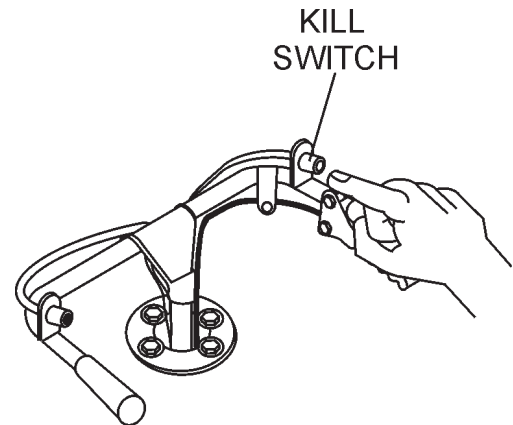

Figure 15. Engine Kill Switch
1. Before attempting to start the AWD Power Buggy, ensure the safety kill switch (Figure 15) is not pushed in. The AWD Power Buggy will not start with the kill switch engaged.
The AWD Power Buggy is equipped with a safety **kill switch**. This switch is located on the right side of the handle bar (Figure 15).
1. Press the power buggy's **kill switch** (Figure 15) and listen for the engine to stop.